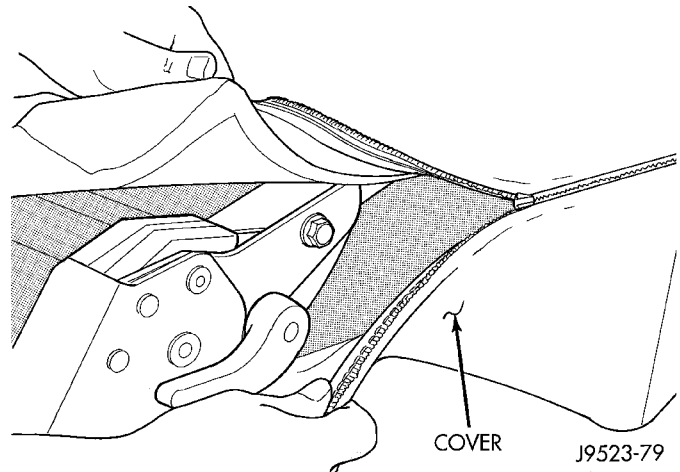

Fig. 9 Seatback Cover Removal
(1) Remove seatback from vehicle. If necessary, refer to removal procedure.
(2) Remove headrest. Twist knob under headrest and pull up and out of cylinders in seatback.
(3) Unfasten zipper (Fig. 9) on trim cover, and peel cover off pad by turning inside-out.
(4) If necessary, headrest cylinders may be removed from seatback frame. Squeeze locking tabs on cylinder and slide cylinder upward and remove from frame bracket.